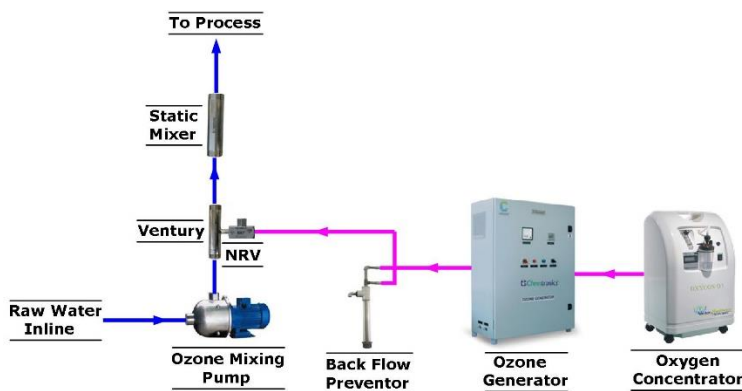

Fig.3 Air Cooled Ozone Generator
1. Air cooled with air as a cooling medium, systems having ozone generators of capacities 5.0g/hr to 15.0g/hr (fig.3).